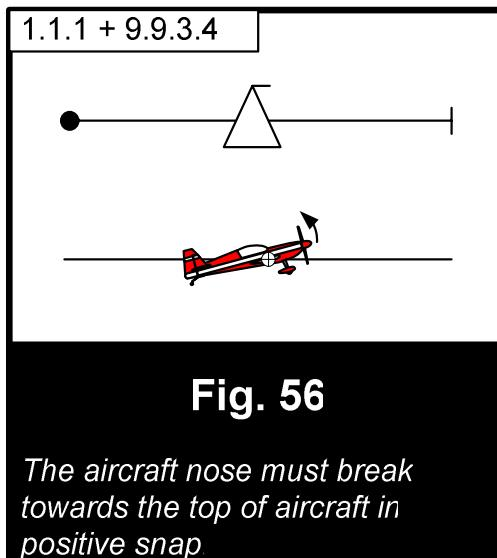

Fig. 56
For a positive snap roll, the nose must move away from the wheels (Fig. 56). This puts the aircraft’s wings near the critical angle-of-attack. Either very shortly after the nose moves, or simultaneously with the nose movement, the aircraft must be seen to yaw around its vertical axis, thus initiating a stall of one wing and subsequent autorotation. If any movement about the longitudinal (roll) axis is observed before the nose departs the line of flight, the figure is downgraded one (1) point per ten (10) degrees.